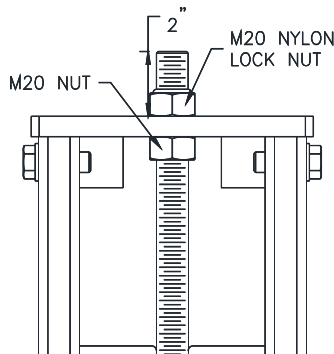

Fig 14 – Lock Ladder Assembly
- 21) Adjust the lock ladder so about 2” remains sticking out of the top. Tighten both bolts as shown in Fig 14 when ladder is properly orientated. Note: When adjusting the lock ladder it may be necessary to loosen or remove the bolts holding the top cap to the column so the bottom nut can be adjusted.